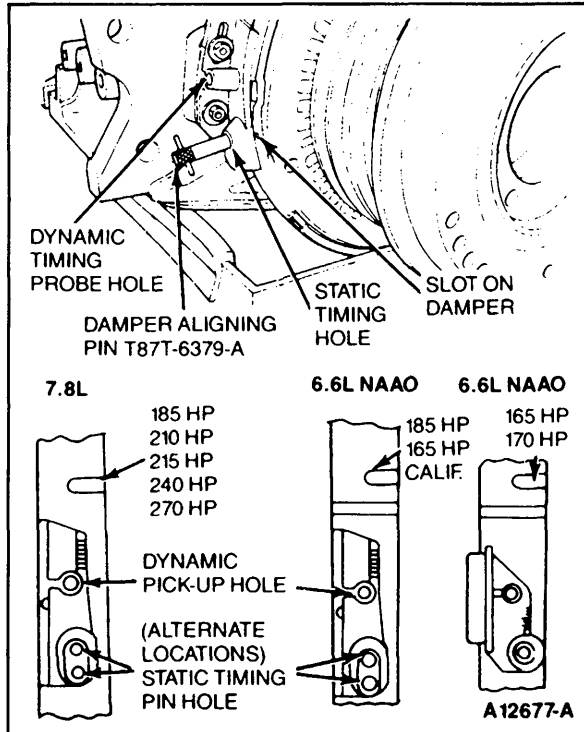

Figure 15 Fitting Timing Pin Into Crankshaft Damper
1. Rotate engine clockwise. Set engine at correct static timing angle with No. 1 piston on the compression stroke. Fit Timing Lock Pin T87T-6379-A through the timing bracket into the correct crankshaft damper groove (Figure 15).